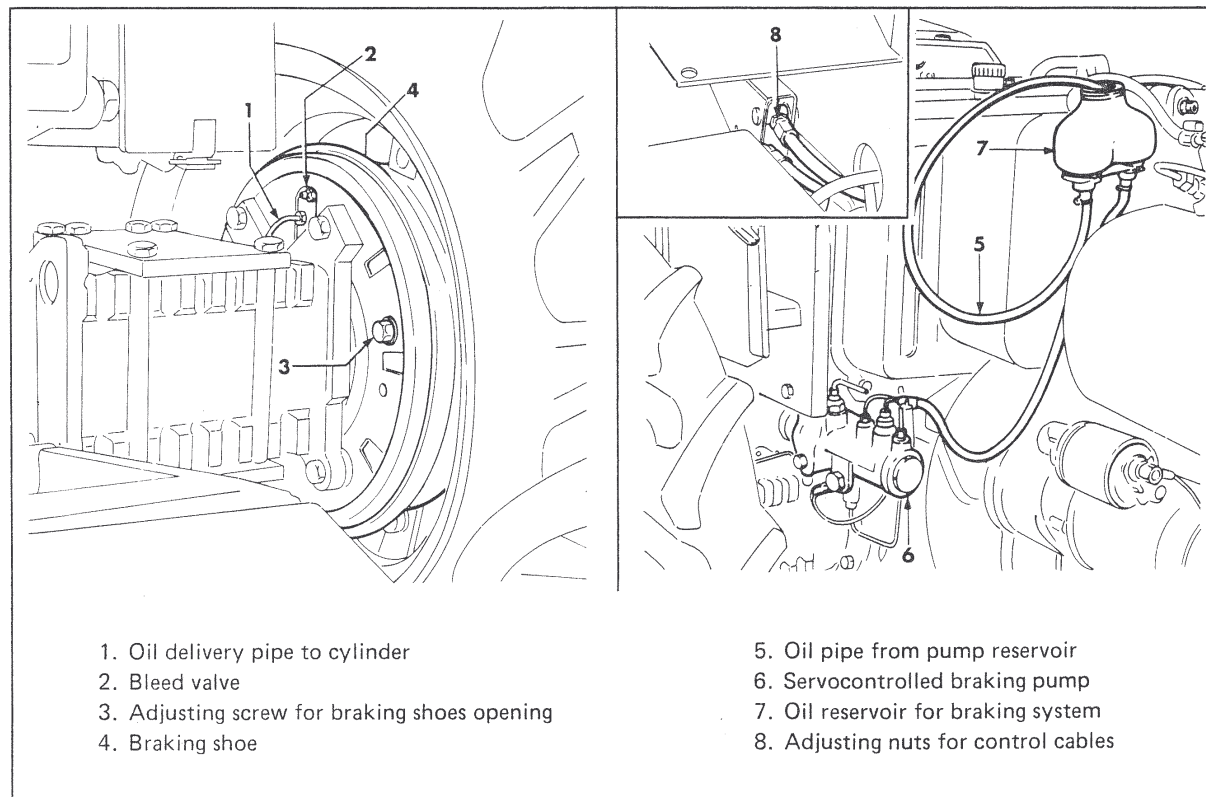

Figure 26. Bleeding of brake system and brake adjustment
1. SYSTEM INSPECTION: if the braking action is found to be delayed, bleed the system through bleed valves located on the brakes cylinders (fig. 26, item 2). When bleeding is complete top off oil level in reservoir by adding new oil.
2. BRAKES ADJUSTMENT: if the idle stroke of pedals is found to be excessive, adjust the brake shoes as follows (see fig. 26):
- turn screw (3) to cause internal cams to get in touch with jaws;
Parking brake (see fig. 26)